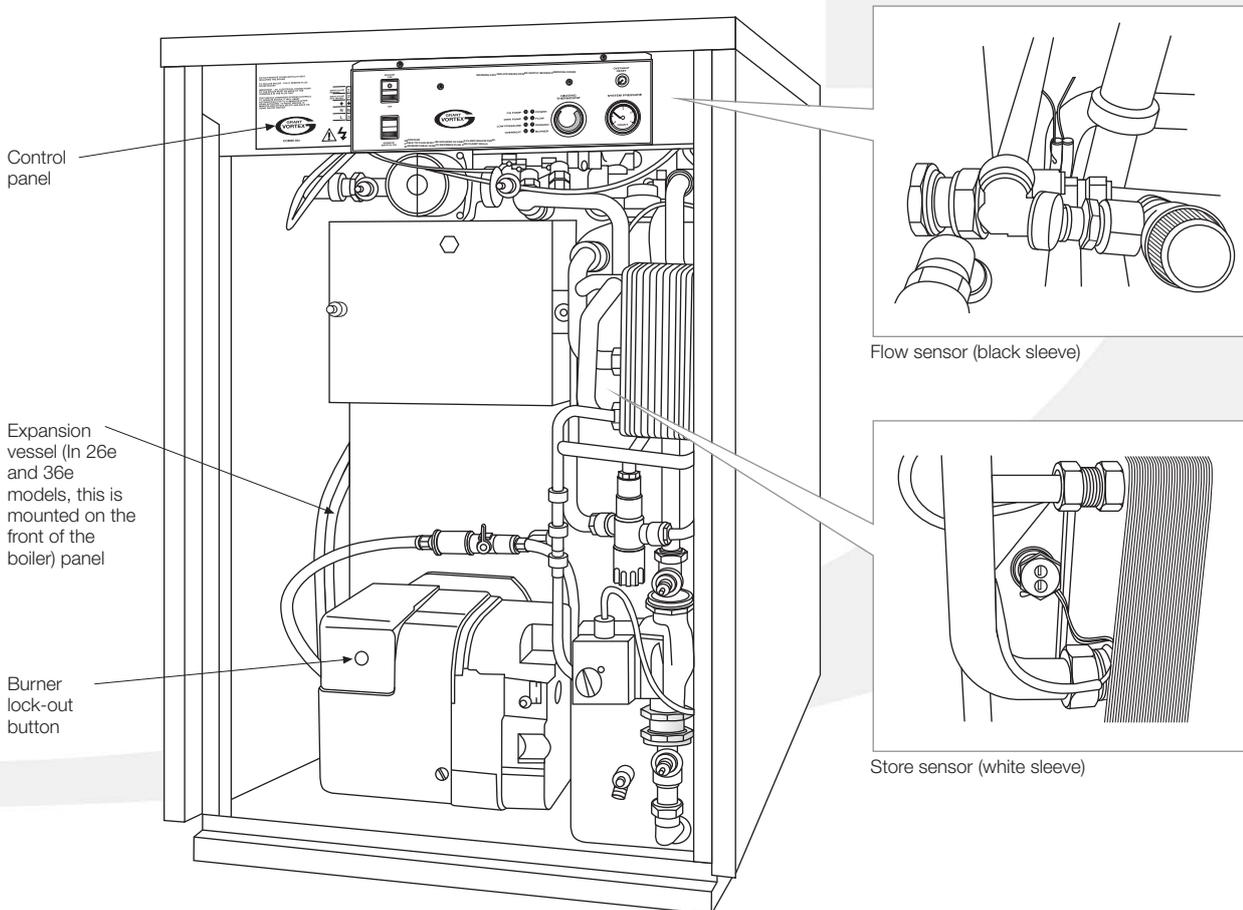

Figure 10-2: Vortex Pro Combi 21e boiler with front panel removed showing position of control panel
2. Check that the high limit thermostat bulb and both thermistor sensors are correctly located in their respective pockets. Refer to Figure 10-2. Check condition of both thermistor cables and thermostat capillary. Ensure they are not damaged, broken, kinked or crushed.